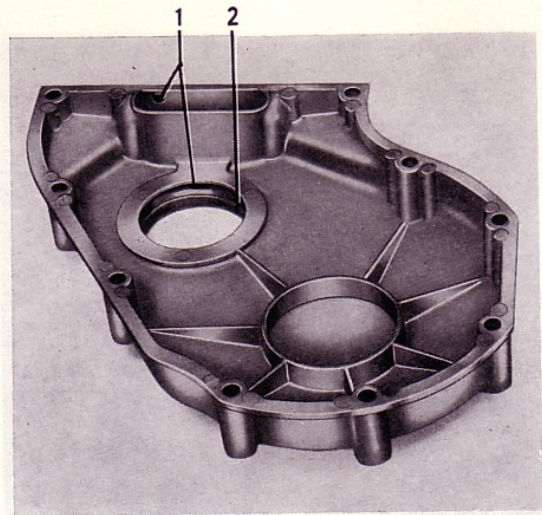

Fig. 42 Timing gear casing
4. Make sure that the gaskets are in good condition and that the drain hole is open and clean inside the timing gear casing which is to be fitted, see Fig. 42.